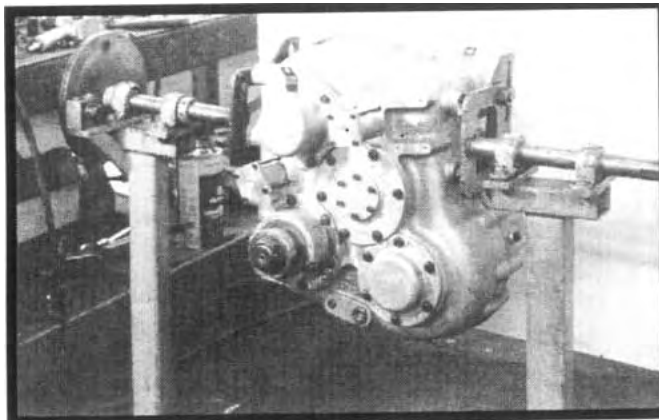

Figure 4.1
3. Mount the transfer case in a suitable fixture. The ideal fixture would be such that the transfer case can be rotated so that either the front or the rear of the case is facing upward. The transfer case must be attached by its front housing half only. A unit mounted in a typical fixture is shown in Figure 4.1. If the fixture does not allow rotation, mount the unit with its rear end facing upward.